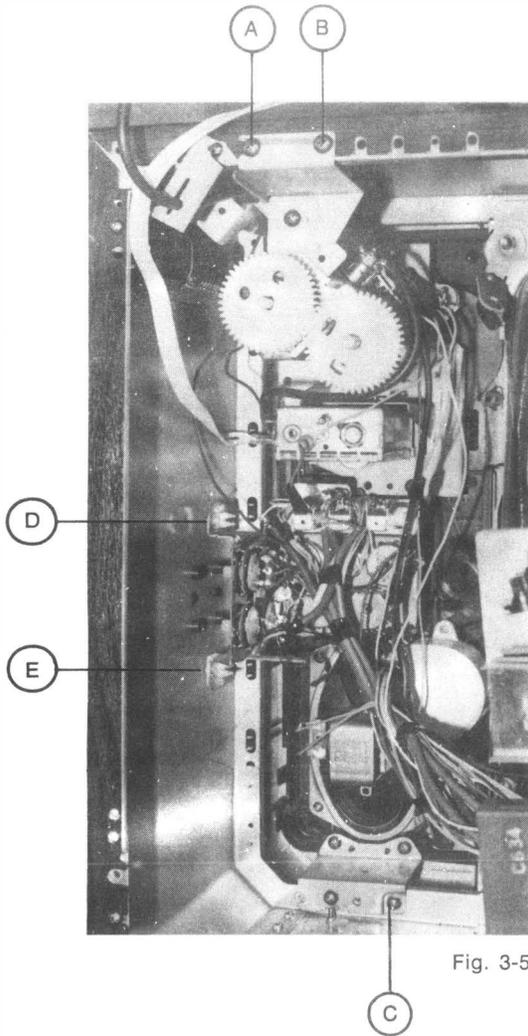

Fig. 3-5
3. Retire os parafusos A, B, C, D e E (Fig. 3-5).